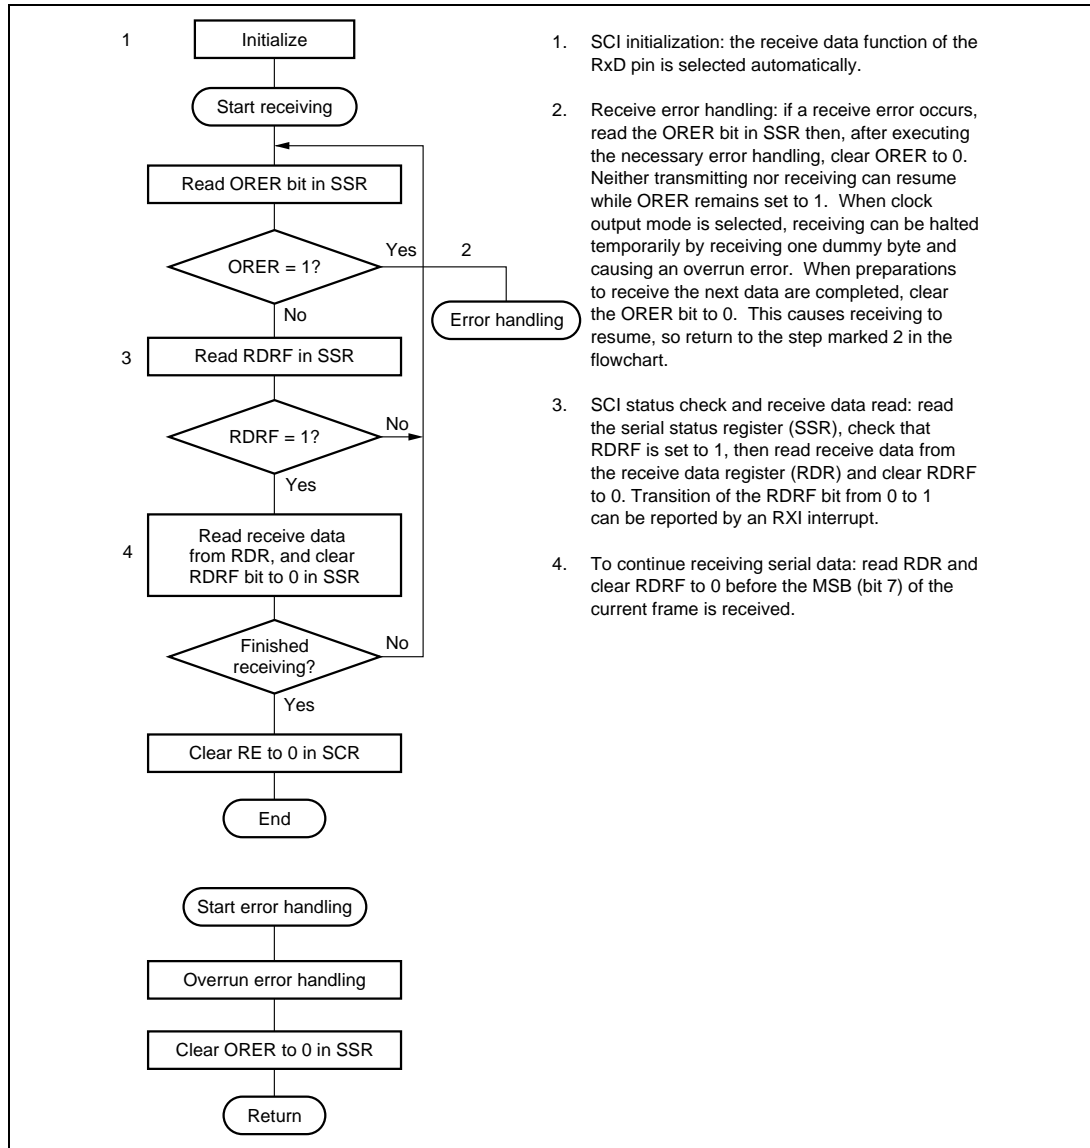

Figure 12-15 Sample Flowchart for Serial Receiving
- **Receiving Serial Data:** Follow the procedure in figure 12-15 for receiving serial data. When switching from asynchronous mode to synchronous mode, be sure to check that PER and FER are cleared to 0. If PER or FER is set to 1 the RDRF bit will not be set and both transmitting and receiving will be disabled.